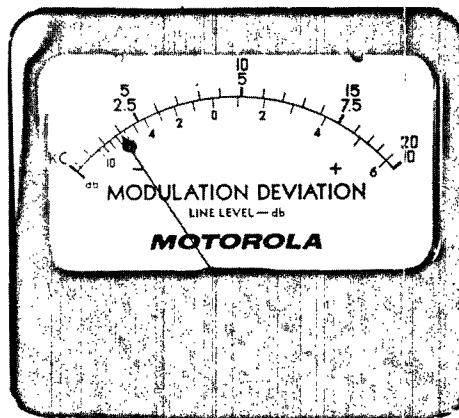

Figure 1.
- Adjust the vertical gain of the oscilloscope so that the total recovered audio pattern occupies some convenient height, e.g., four small squares. (12 squares in a wide band system). The split-channel condition is shown in figure 1.